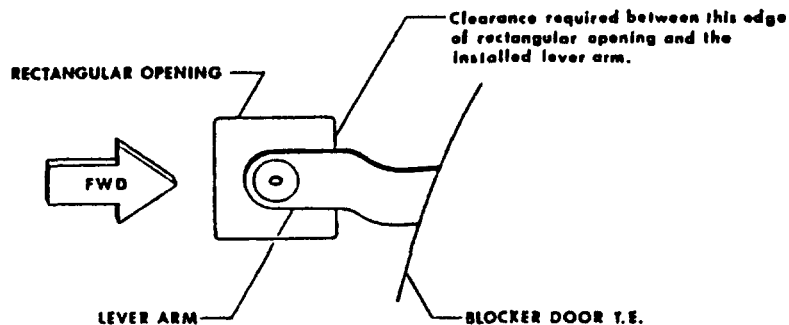

Figure 212 - Inner Lever Arm/Nozzle Clearance
- (4) Remove the nuts (7), bolts (6), and spring washers (5) (two places) attaching the outer and inner lever assemblies. Remove outer levers on both inboard and outboard side of blocker doors.
- (5) Hand rotate the blocker door to gain access to the appropriate inner lever arm blocker door attachment. Remove the key (17), nut (16), bushing (15), spring washer (14) and washers (51, 2) from the blocker door to lever arm attach point.
- (6) Remove the lever assembly (3) and the spacer (50).
- (7) Install new lever arm with a new spacer (50). Attach to blocker door reversing earlier procedure.
- (8) A minimum clearance of 0.003 inch is required between the installed 232-20258 lever arms and the forward edge of the rectangular openings in the reverser nozzle with the reverser extended and the blocker doors in the forward thrust or full-open position (see Figure 212). When required, obtain clearance as follows: